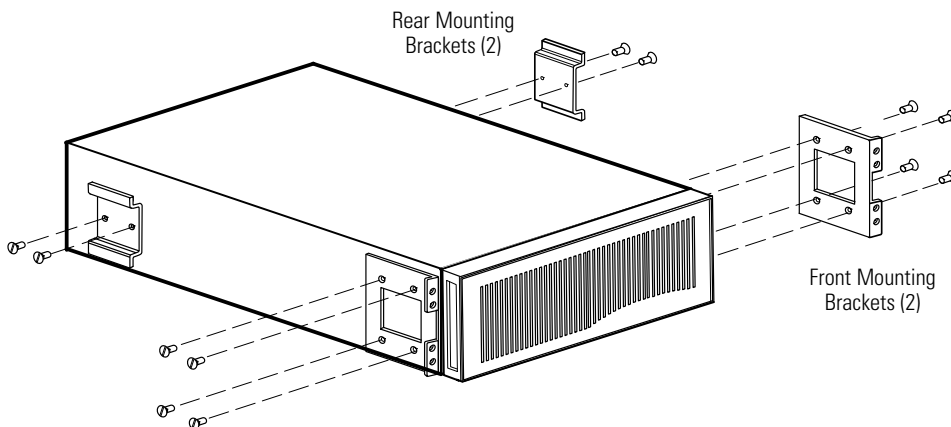

Figure 7. Installing the EBM Front and Rear Mounting Brackets
10. Align the two front mounting brackets with the screw holes on the sides of the EBM and secure with eight supplied M4 flat-head screws (see Figure 7).